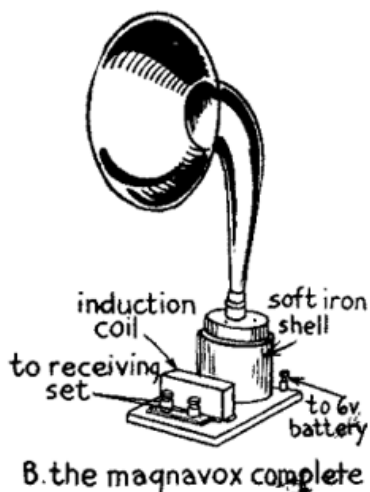

FIG. 68.—Magnavox Loud Speaker.
A *telemegafone* of either kind is formed of: (1) a telephone receiver of large proportions, (2) a step-down induction coil, and (3) a 6 volt storage battery that energizes a powerful electromagnet which works the diaphragm. An electromagnet is used instead of a permanent magnet and this is energized by a 6-volt storage battery as shown in the wiring diagram at *A* in *Fig. 68*. One end of the core of this magnet is fixed to the iron case of the speaker and together these form the equivalent of a horseshoe magnet. A movable coil of wire is supported from the center of the diaphragm the edge of which is rigidly held between the case and the small end of the horn. This coil is placed over the upper end of the magnet and its terminals are connected to the secondary of the induction coil. Now when the coil is energized by the current from the amplifiers it and the core act like a solenoid in that the coil tends to suck the core into it; but since the core is fixed and the coil is movable the core draws the coil down instead. The result is that with every variation of the current that flows through the coil it moves up and down and pulls and pushes the diaphragm down and up with it. The large amplitude of the vibrations of the latter set up powerful sound waves which can be heard several blocks away from the horn. In this way then are the faint incoming signals, speech and music which are received by the amplifying receiving set reproduced and magnified enormously. The *Telemegafone* is shown complete at *B*.